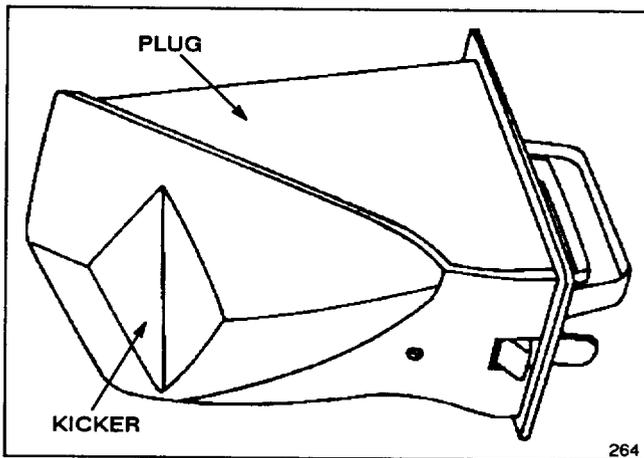

Figure 10
- A special plug which locks into the mower's discharge tunnel (a fifth kicker is on the plug) (Fig. 10)
It is possible to mow without using the plug by closing the discharge tunnel door. However, your lawn appearance will be much more satisfactory if you use the plug as it has an additional kicker (Fig. 10) that helps drive the clippings down into the grass.